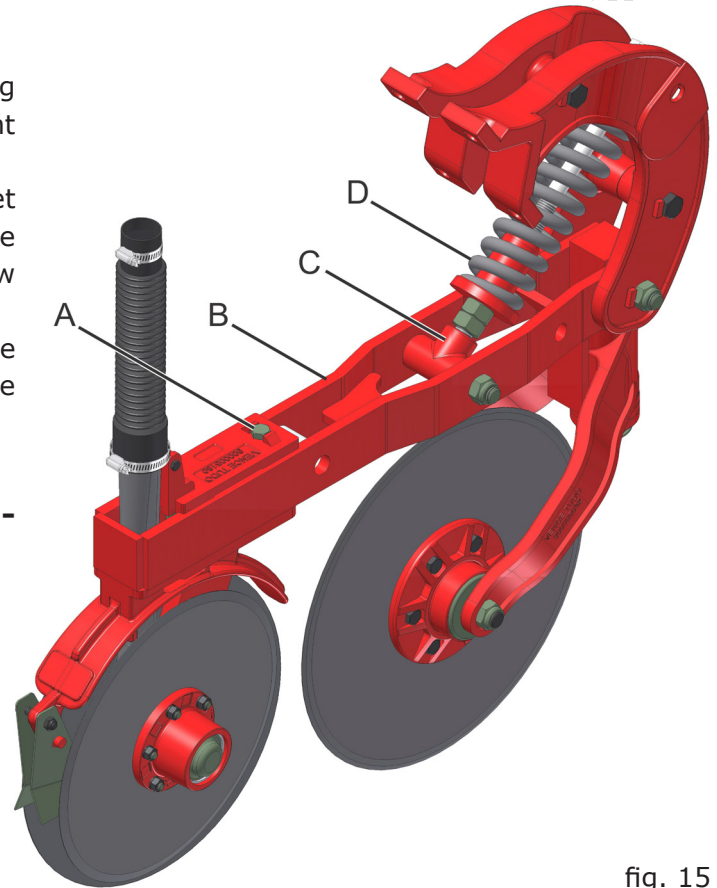

fig. 15
Made up of a set of 13 and 14 inch offset double discs, mounted in interchangeable structure fastened by bolts (A) (fig. 15) in the furrowing row (B).
For greater penetration and depth of the fertilizer, suspend the seeder and move the guide (C) (fig. 15) of the coil spring (D).